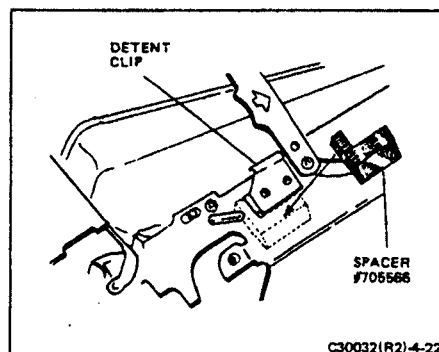

FIGURE 4-22 INSTALLING ERECTING LINK SPACER
- b. With the camera fully erected, slip special spacer #705566 under the edge of the detent clip as shown in Figure 4-22. The spacer will snap into place under the edge of the clip and will provide the needed clearance between the lower camera back assembly and the bottom cover.
*NOTE: Early cameras do not have the detent clip shown in Figure 4-22 so the spacer cannot be installed. However, these cameras should not exhibit this clearance problem anyway. Also, new camera models have a modified detent clip which eliminates the clearance problem.*